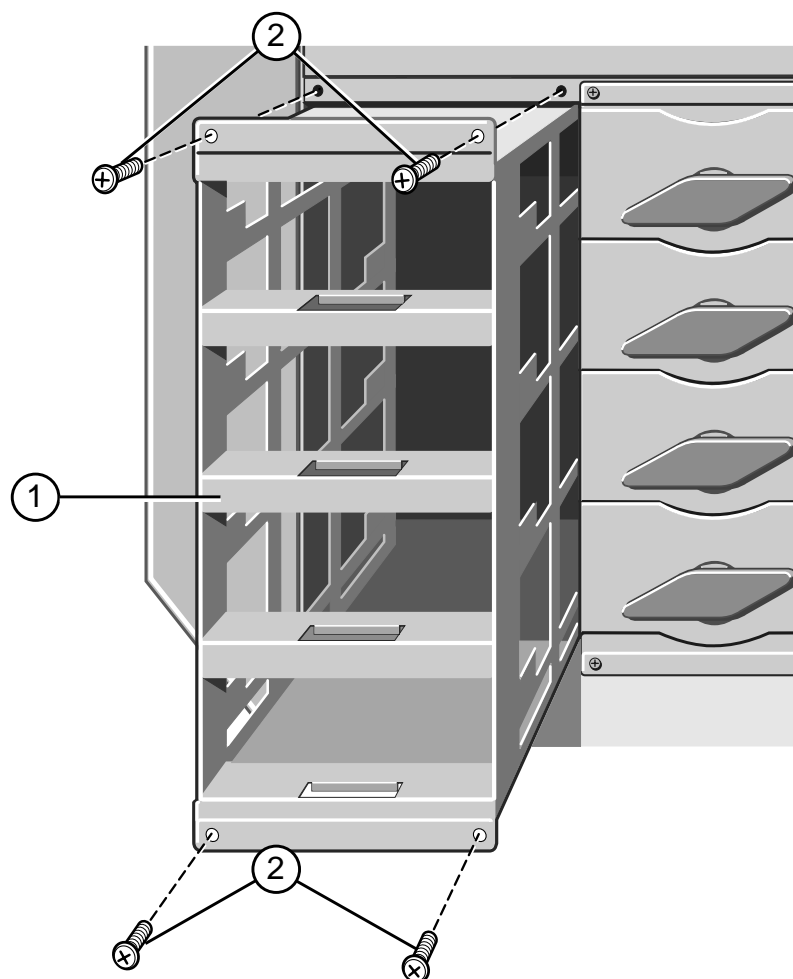

Figure 4-5 Removing a Drive Module
4. Now use the four screws to fasten the module to the subsystem metalwork in the drive chamber, as in Figure 4-5.